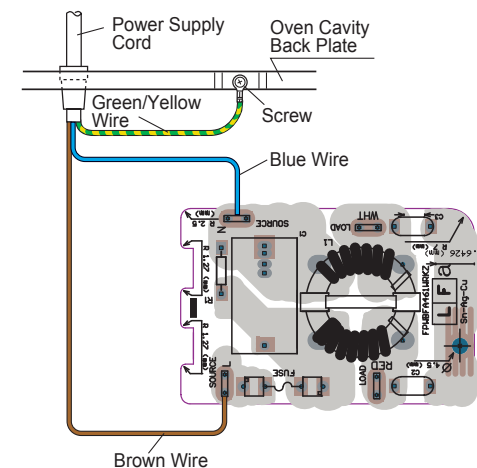

Figure C-3(a) Power Supply Cord Replacement
4. Release the moulding cord stopper of the power supply cord from the square hole of the oven cavity back plate, referring to the Figure C-3(b).